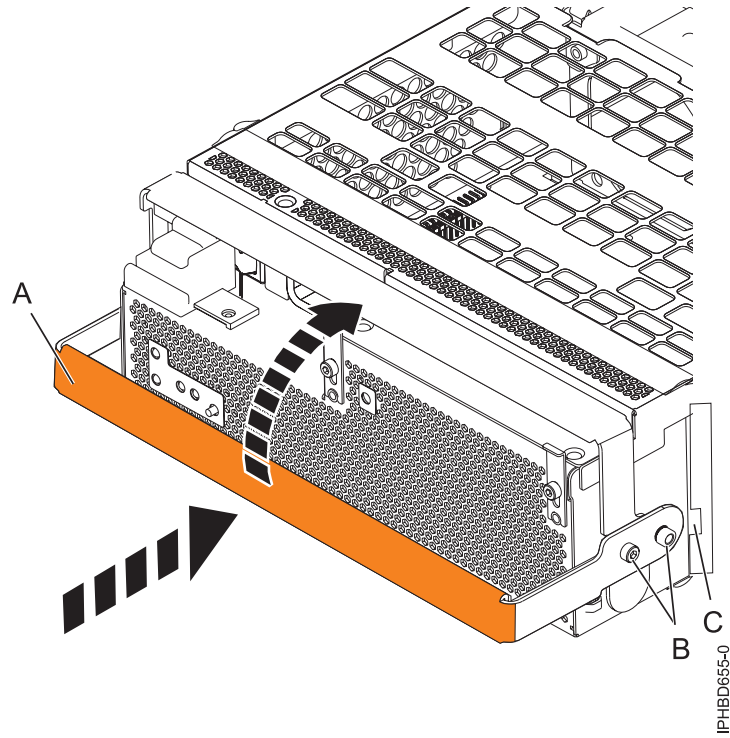

Figure 62. Replacing a power supply
10. To replace the power supply, with the locking handle (A) in the open position, push the power supply into the expansion unit as shown in Figure 62 on page 79.
11. Close the locking handle (A) until the power supply locks into position.